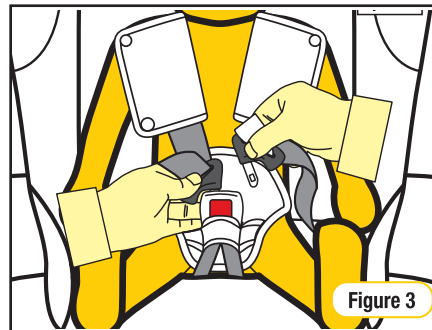

Figure 3
Step 3: Place child in car seat with legs either side of the buckle, place harness over the shoulders and hips (refer Figure 3) .
- Lower strap out of way (refer Figure 3).